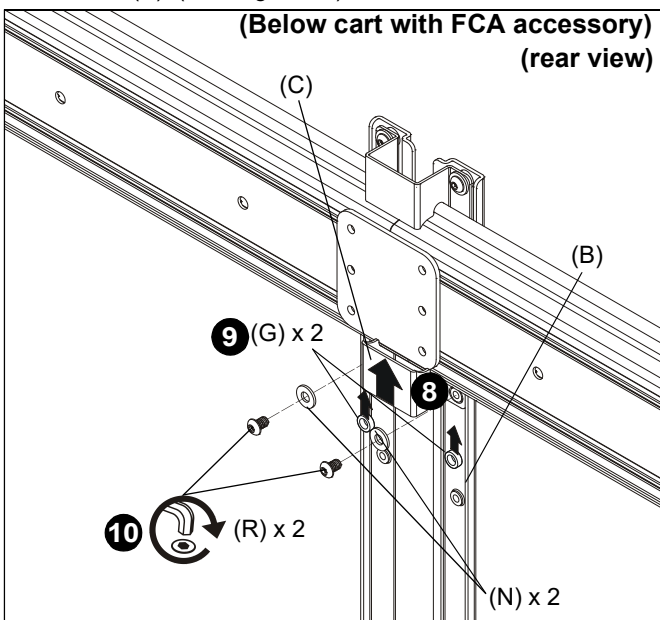

Figure 10
- Slide second shelf bracket (C) underneath head assembly, lining up holes on shelf bracket (C) to holes on main bracket (B). (See Figure 10)
- Slide two 1/2" spacers (G) in between shelf bracket (C) and main bracket (B). (See Figure 10)
- Use two 1/4-20 x 7/16" button head cap screws (R) and two large washers (N) to secure shelf bracket (C) to main bracket (B). (See Figure 10)